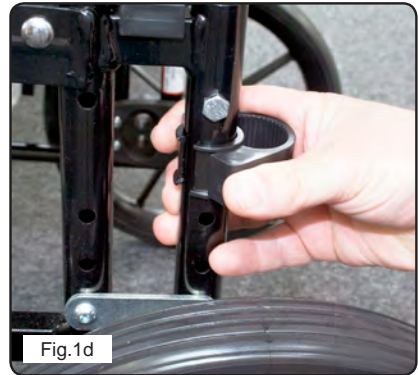
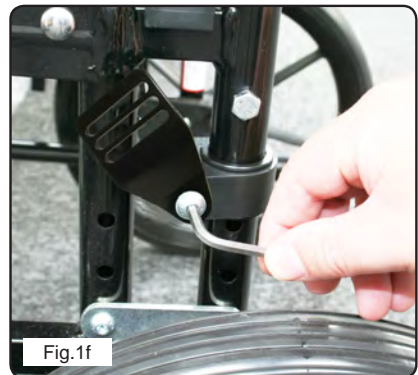

Fig.1a
Fig.1b
- Clip the appropriate size Frame Adapter if required (Horizontal fitting Fig.1a or Vertical fitting Fig.1b) around the frame tube, as close to the rear of the seat base as possible.